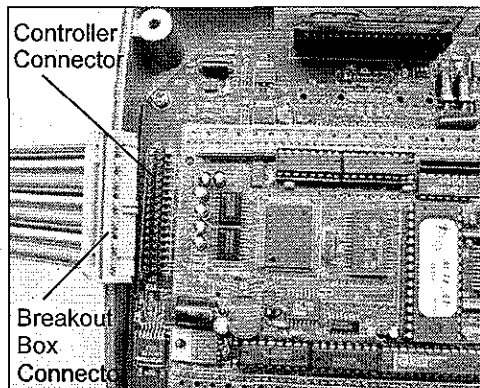

Figure 4-6a: Connecting the Breakout Box
- a. Connect the breakout box's ribbon cable to the Controller PCB (see Figures 4-6a and 4-6b).